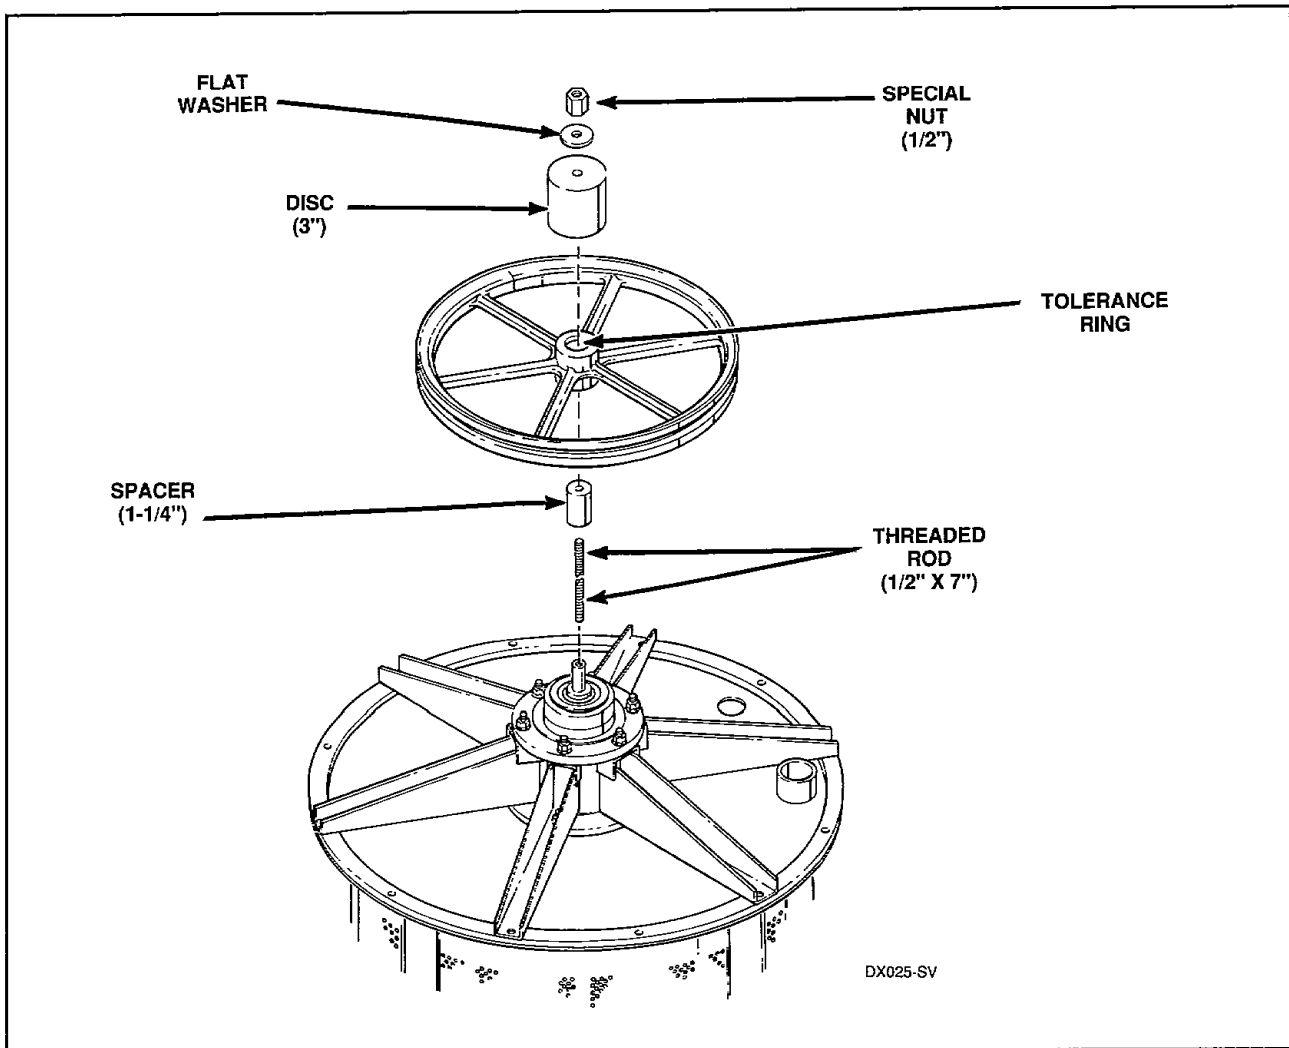

Figure 25
- a. Screw the $\frac{1}{2}$ x 7 inch threaded rod into end of cylinder shaft, *Figure 25*.
- b. Place the $1\frac{1}{4}$ inch spacer over the threaded rod, *Figure 25*, so it rests against end of cylinder shaft.
- c. Insert the tolerance ring into the pulley hub before starting pulley on cylinder shaft, *Figure 25*.
- d. Place the 3 inch disc over the threaded rod with the small hole in the disc at the top, *Figure 25*.
- e. Place the $\frac{1}{2}$ inch flat washer and the $\frac{1}{2}$ inch special nut on the threaded rod; snug nut against the washer and top of disc, *Figure 25*.
- f. Turn the special nut clockwise, forcing the pulley on the cylinder shaft until pulley bottoms against the rear bearing in the bearing housing, *Figure 25*.